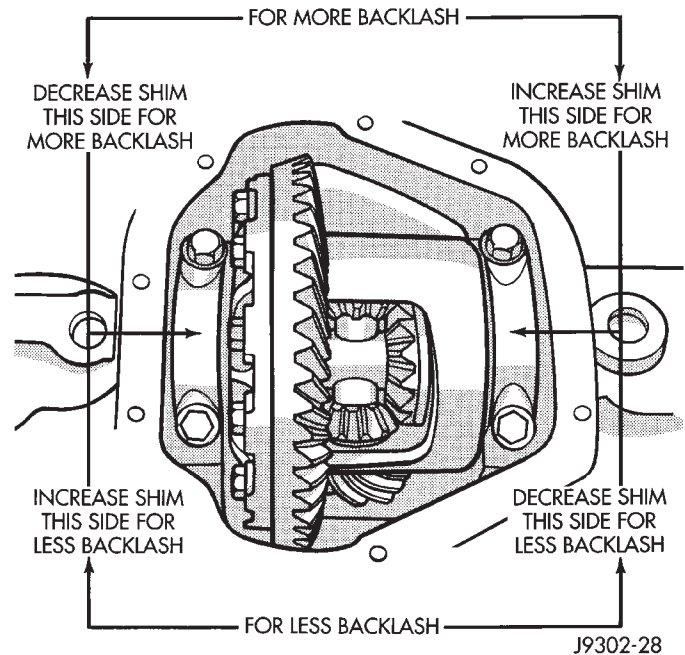

Fig. 89 Backlash Shim Adjustment
(37) Push and hold ring gear upward while not allowing the pinion gear to rotate.
(38) Zero dial indicator face to pointer.
(39) Push and hold ring gear downward while not allowing the pinion gear to rotate. Dial indicator reading should be between 0.12 mm (0.005 in.) and 0.20 mm (0.008 in.). If backlash is not within specifications transfer the necessary amount of shim thickness from one side of the axle housing to the other (Fig. 89).
(40) Verify differential case and ring gear runout by measuring ring to pinion gear backlash at several locations around the ring gear. Readings should not vary more than 0.05 mm (0.002 in.). If readings vary more than specified, the ring gear or the differential case is defective.